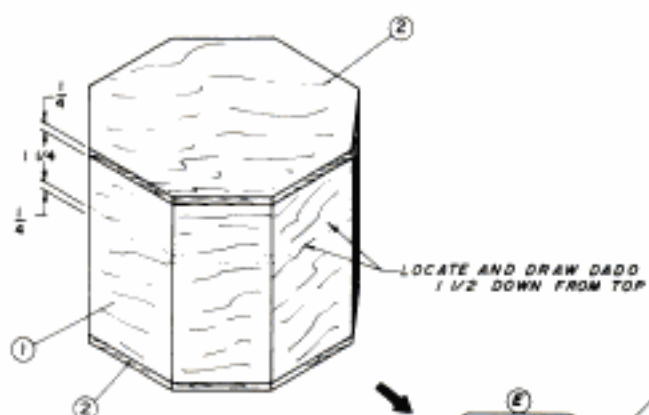

FIG. 4
**4.** Measure for the lid cut. The sealed box should now look as shown in the drawing for figure 4, page 97. When the glue has dried, sand the top and bottom edges flush with the sides. Draw a line around the box,  $1\frac{1}{2}$  inches down from the top surface and parallel to it. This will be the top of a groove that separates the lid from the box.